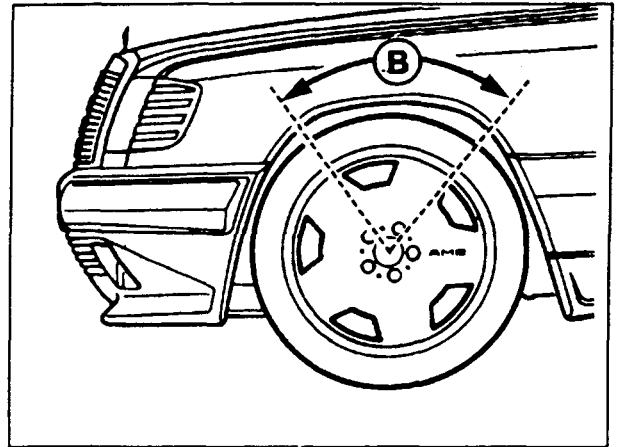

Figure 9
17. Work fender lip contour so that the transition curve (B, Figure 9) is smooth.